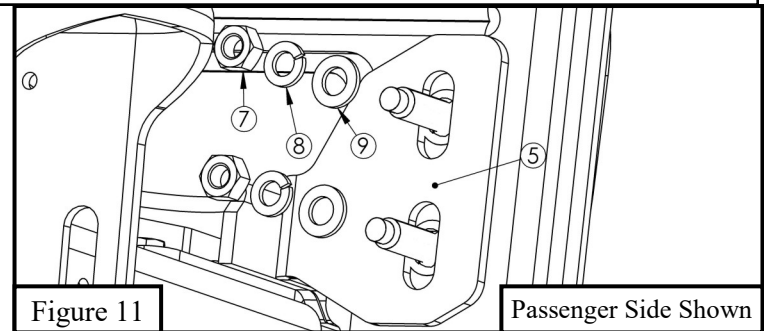

Figure 11
7. Starting on either side of the vehicle. Locate (1) Lower Mount Bracket (Item 2/3) and from the front of the vehicle install it where the tow hooks were. Align the bracket with the vehicle frame at the same location that the factory bracket was removed. Loosely install using (4) M12 hex head cap screws, (8) M12 hex nuts, (8) M12 split lock washers and (12) flat washers (Items 6 - 9). See Figures 11 and 12.